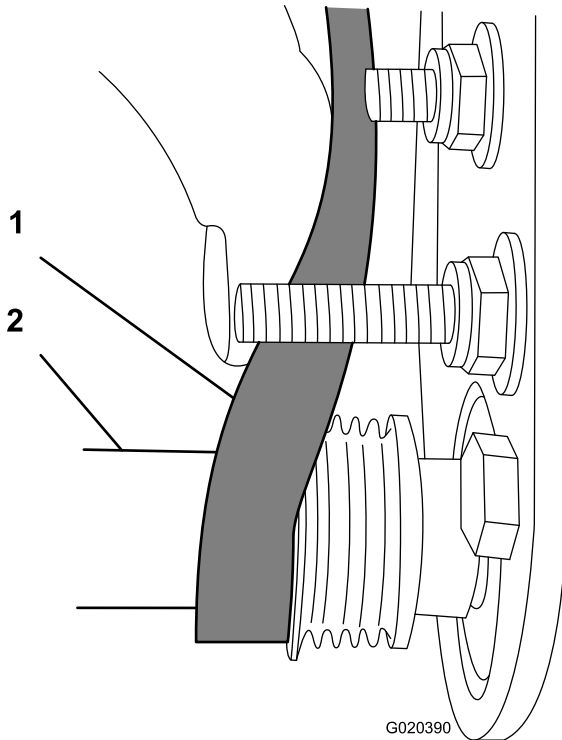

Figure 14
- Start the belt on the **driven** pulley (Figure 14).
- Use a 9/16-inch deep-well socket to rotate the brush assembly and guide the belt onto the driven pulley (Figure 14).